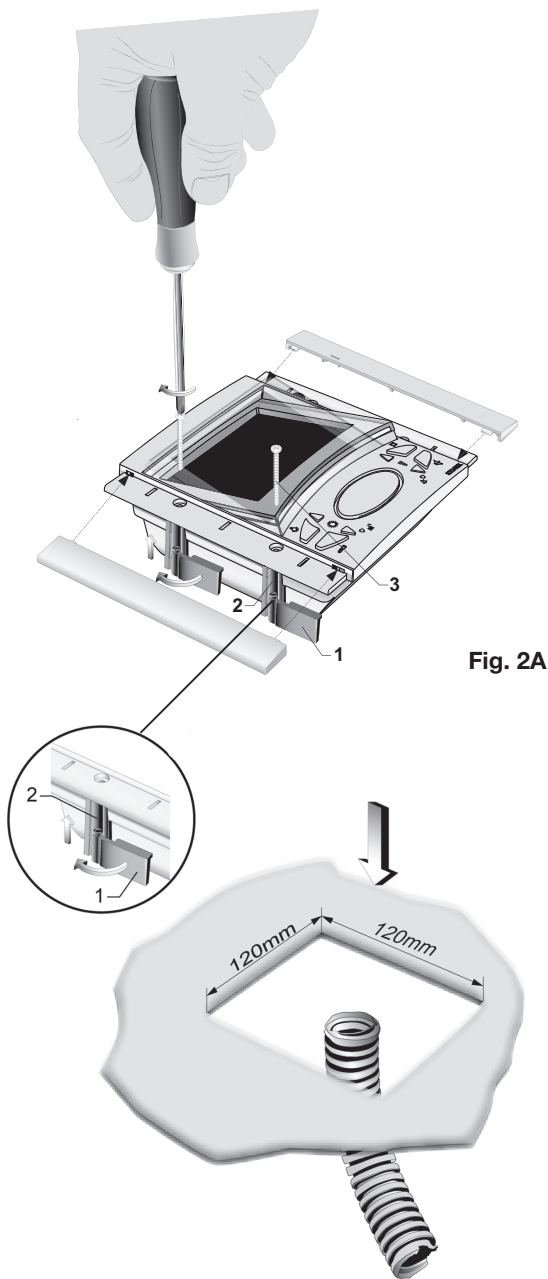

Fig. 2A
- Fix the bracket to the monitor as indicated in figure, keeping the cursors well aligned to the monitor sides (part. 1, Fig. 2A)
- By screwing, the cursors should get aligned orthogonally to the monitor (see part. 1, Fig. 2A)